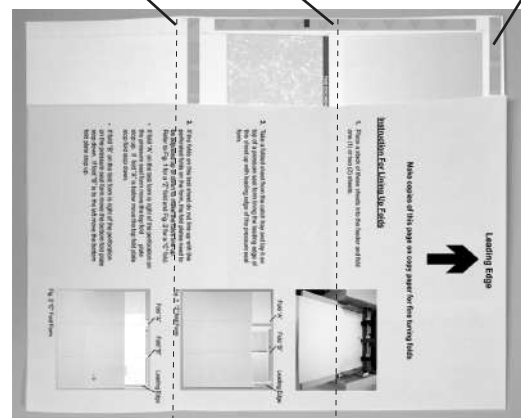

Fig. 60 "Z" fold Form
3. If the folds on this test sheet do not line up with the perforated folds on the form, the fold plates need to be adjusted up or down to make the folds line up. Refer to Fig. 60 for a "Z" fold and Fig. 61 for a "C" fold.